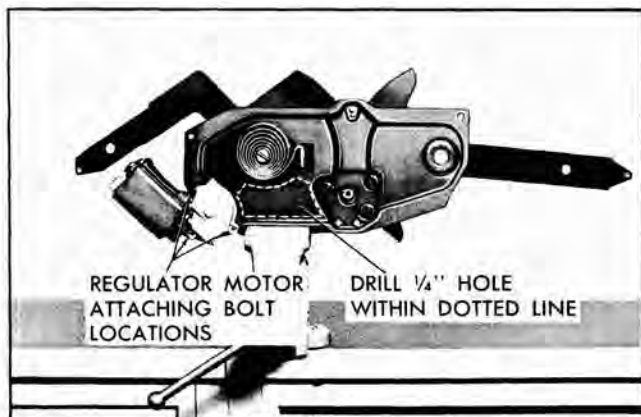

Fig. 5-15 Tail Gate Window Regulator
2. Place regulator assembly in a vise as shown in Fig. 5-15.
3. Drill a 1/4 inch hole through regulator backplate and main sector within area indicated by dotted lines (Fig. 5-15).
5. Remove three (3) motor attaching bolts, at locations shown in Fig. 5-15 and remove motor assembly from regulator.